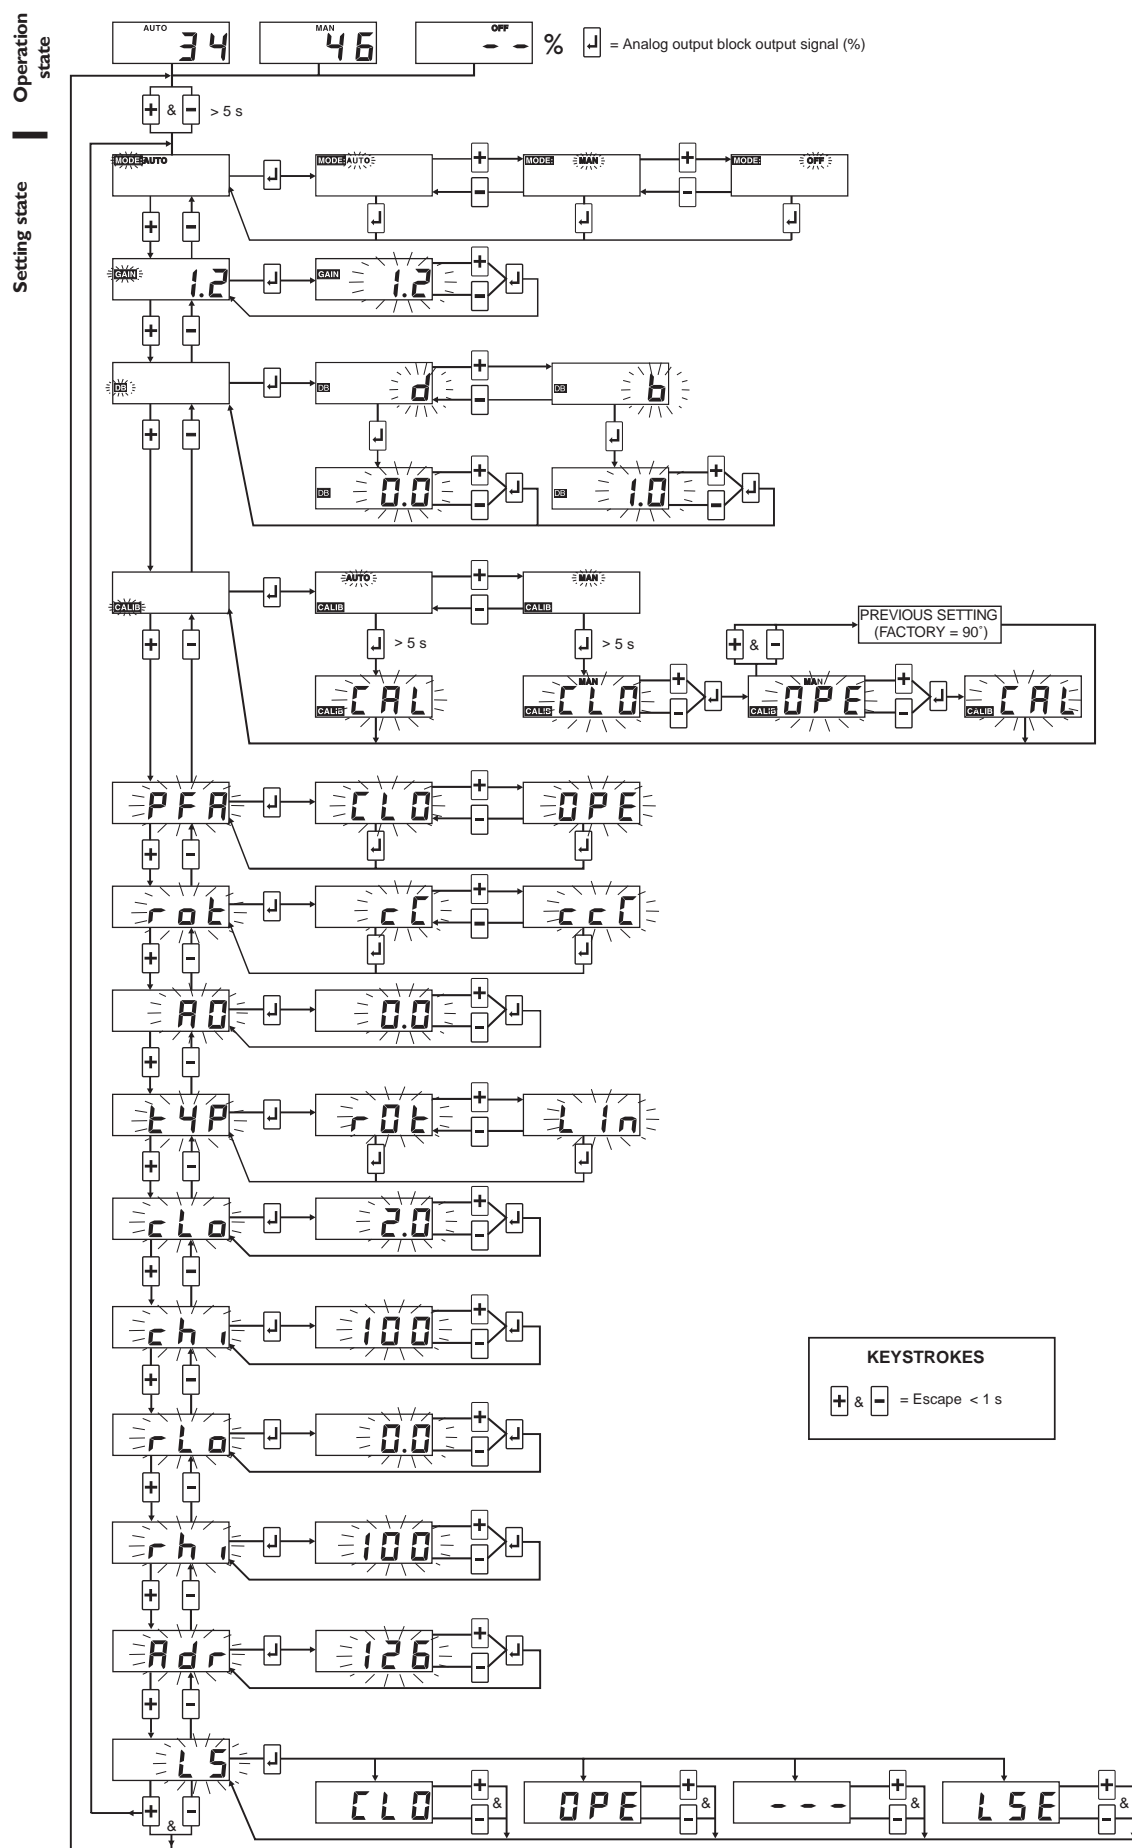

Fig. 10. Keyboard operations
- ☐ The **DB** parameters can be adjusted in the same manner. (See Fig. 10).
- To conclude press the  $\square$  key when the desired value is shown on the display. See default values in Fig. 7 and functions in Fig. 10.
- After the desired value is displayed, press the key  $\square$  to conclude the operation. See default values and tubing sizes in Fig. 7 and functions in Fig. 10.
- Press the  $\square$  key to finalize your selection and return to the setting state. See Fig. 10 for functions.